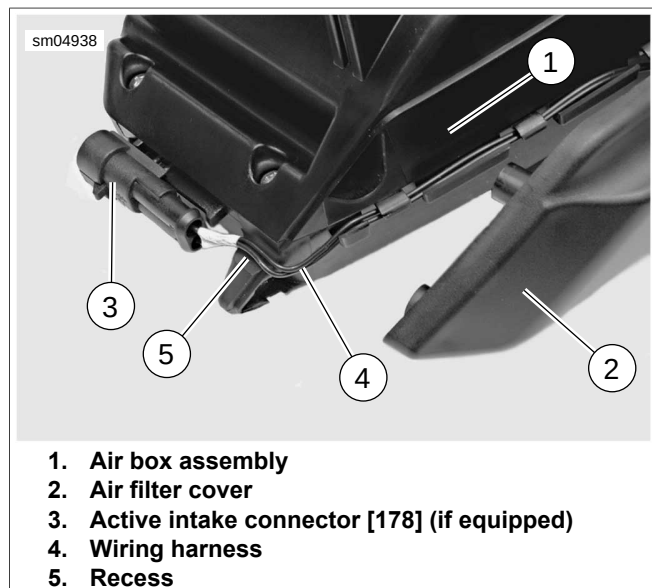

Figure 1-15. Installing Air Filter Cover
4. **Active Intake Models:** See Figure 1-15.
- a. Verify that the active intake connector wiring harness (4) is in the air box recess (5).
5. Install rear of air filter cover (2) onto air box. Secure with two screws.